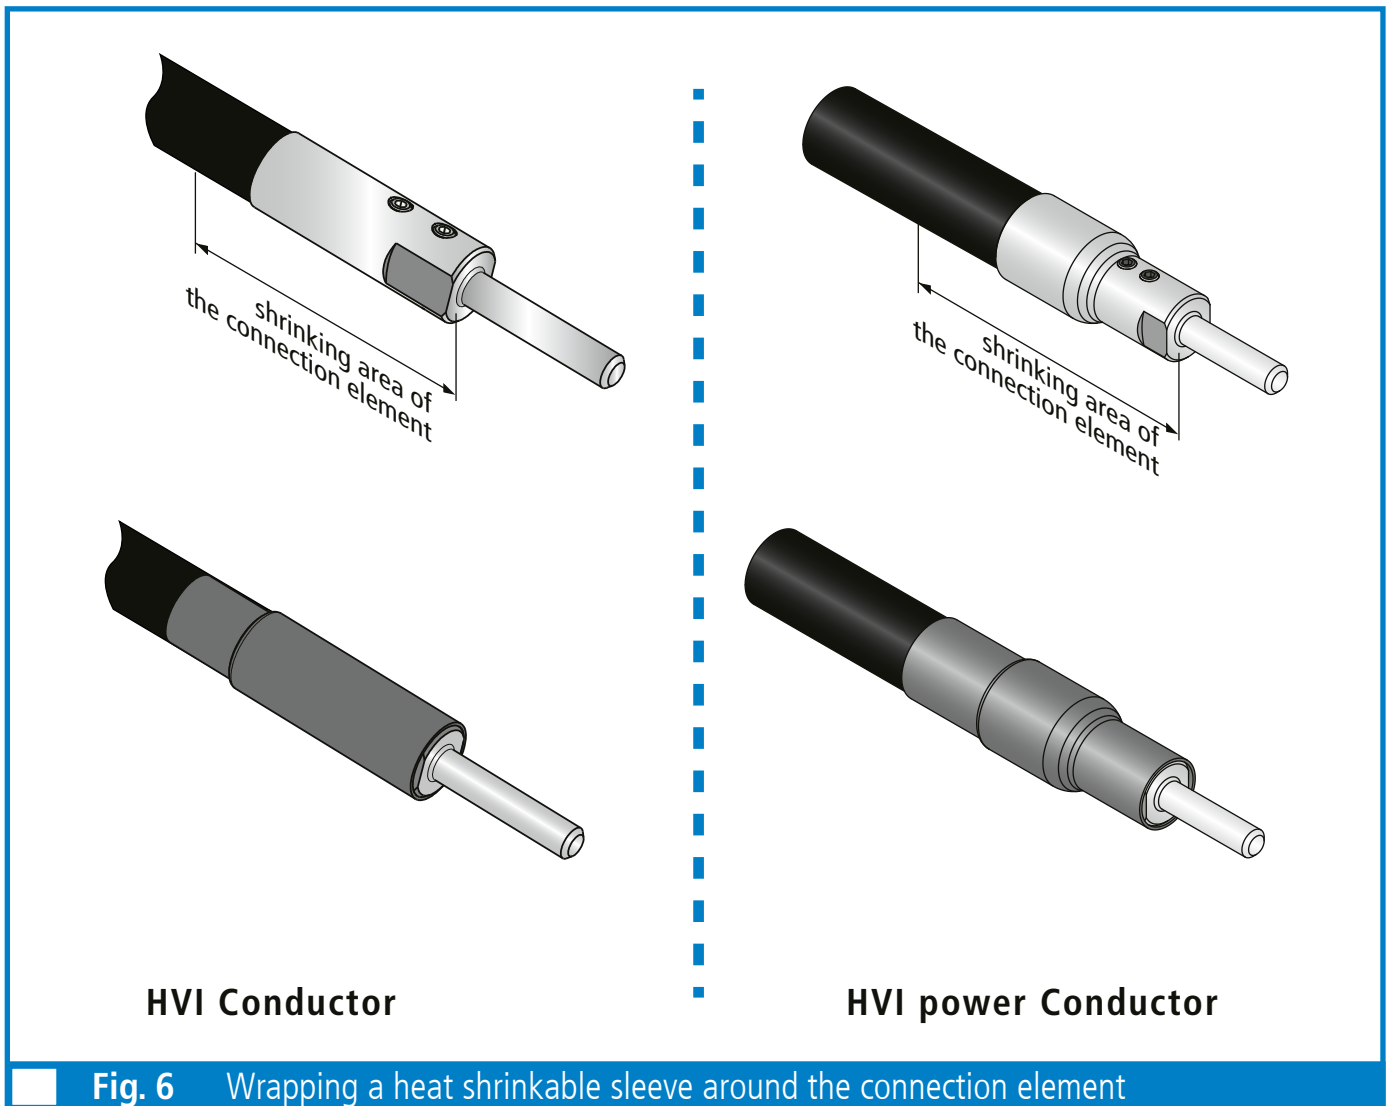

Fig. 6 Wrapping a heat shrinkable sleeve around the connection element
- The indicated shrinking area between the connection element and the **HVI Conductor/ HVI power Conductor** must be observed (Fig. 6, page 13).